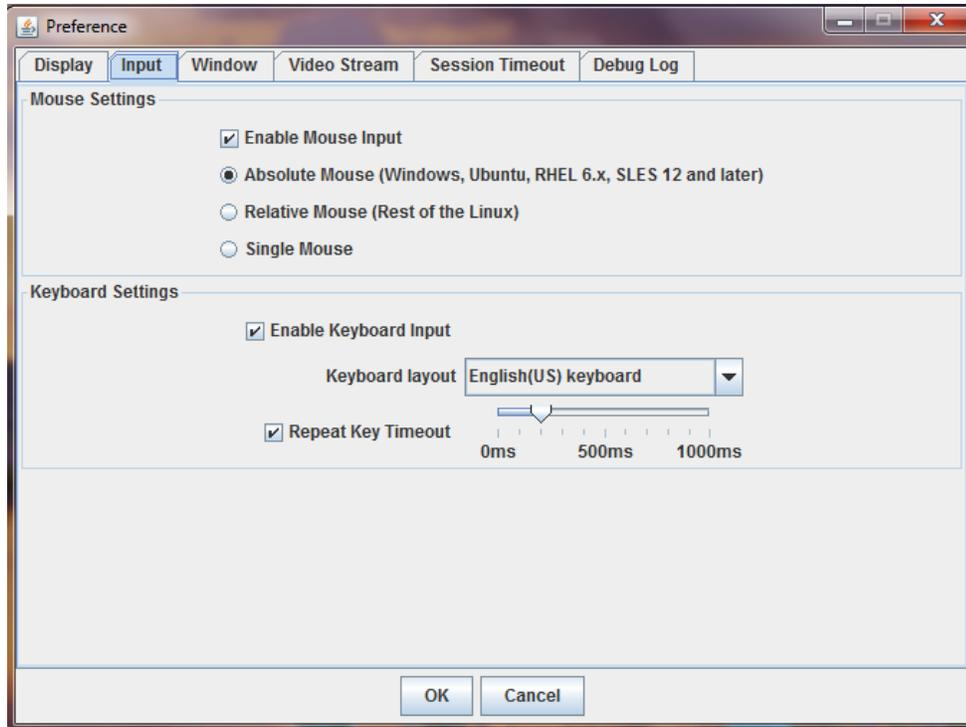

Figure 26. Remote Console Input Settings
- **Input** (Figure 26) – Enable/disable mouse/keyboard input, change the mouse mode, specify keyboard layout, and set repeat key timeout.